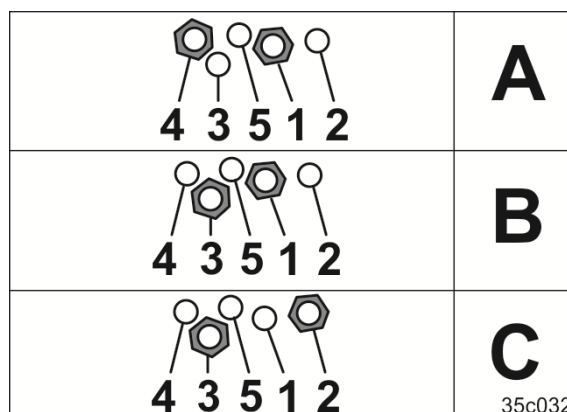

Fig. 99
One bolt is inserted in hole (Fig. 99/1), the second bolt is inserted in hole (Fig. 99/4). The spring force is permanently acting on the cutting rail and the blades.
Repositioning of the bolt from hole (Fig. 99/4) to hole (Fig. 99/3) or (Fig. 99/5) causes only the net weight of the cutting rail to act on the blades. The spring force only comes into effect when the blades are raised and the clip strikes against the bolt in hole (Fig. 99/3) or (Fig. 99/5).
- only after the bolt is inserted in hole (Fig. 99/3).
- later if the bolt is inserted in hole (Fig. 99/5).
Repositioning the bolt from hole (Fig. 99/1) to hole (Fig. 99/2) causes the roller to work without the blades. Raise the cutting rail to reposition the bolt.